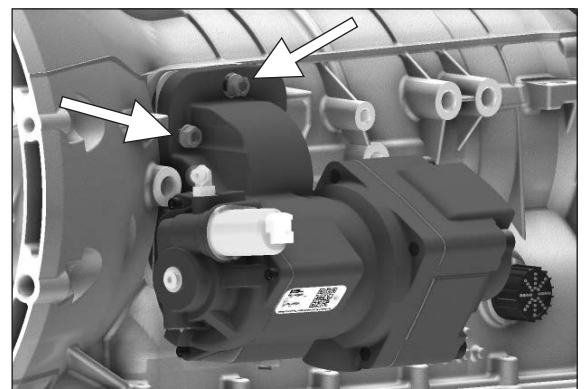

Figure 32
11. Install the PTO over the studs and attach the self-locking nuts to the top shoulder stud and left top shoulder stud. **DO NOT** tighten down at this time (**Fig. 32**).